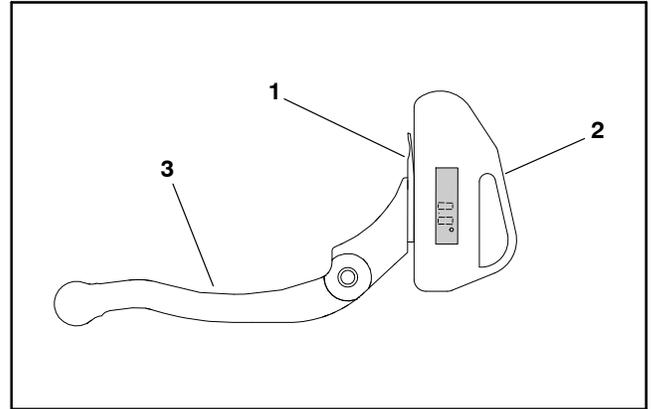

Figure 9
1. Place the angle indicator on the bottom side of the bedknife with the digital display facing you as shown (Fig. 9).